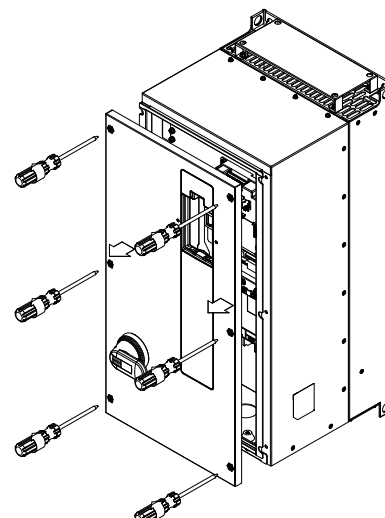

Figure 6-14
- 2) Loosen the screws and press the tabs on both sides to remove the cover. (As shown in Figure 6-14)